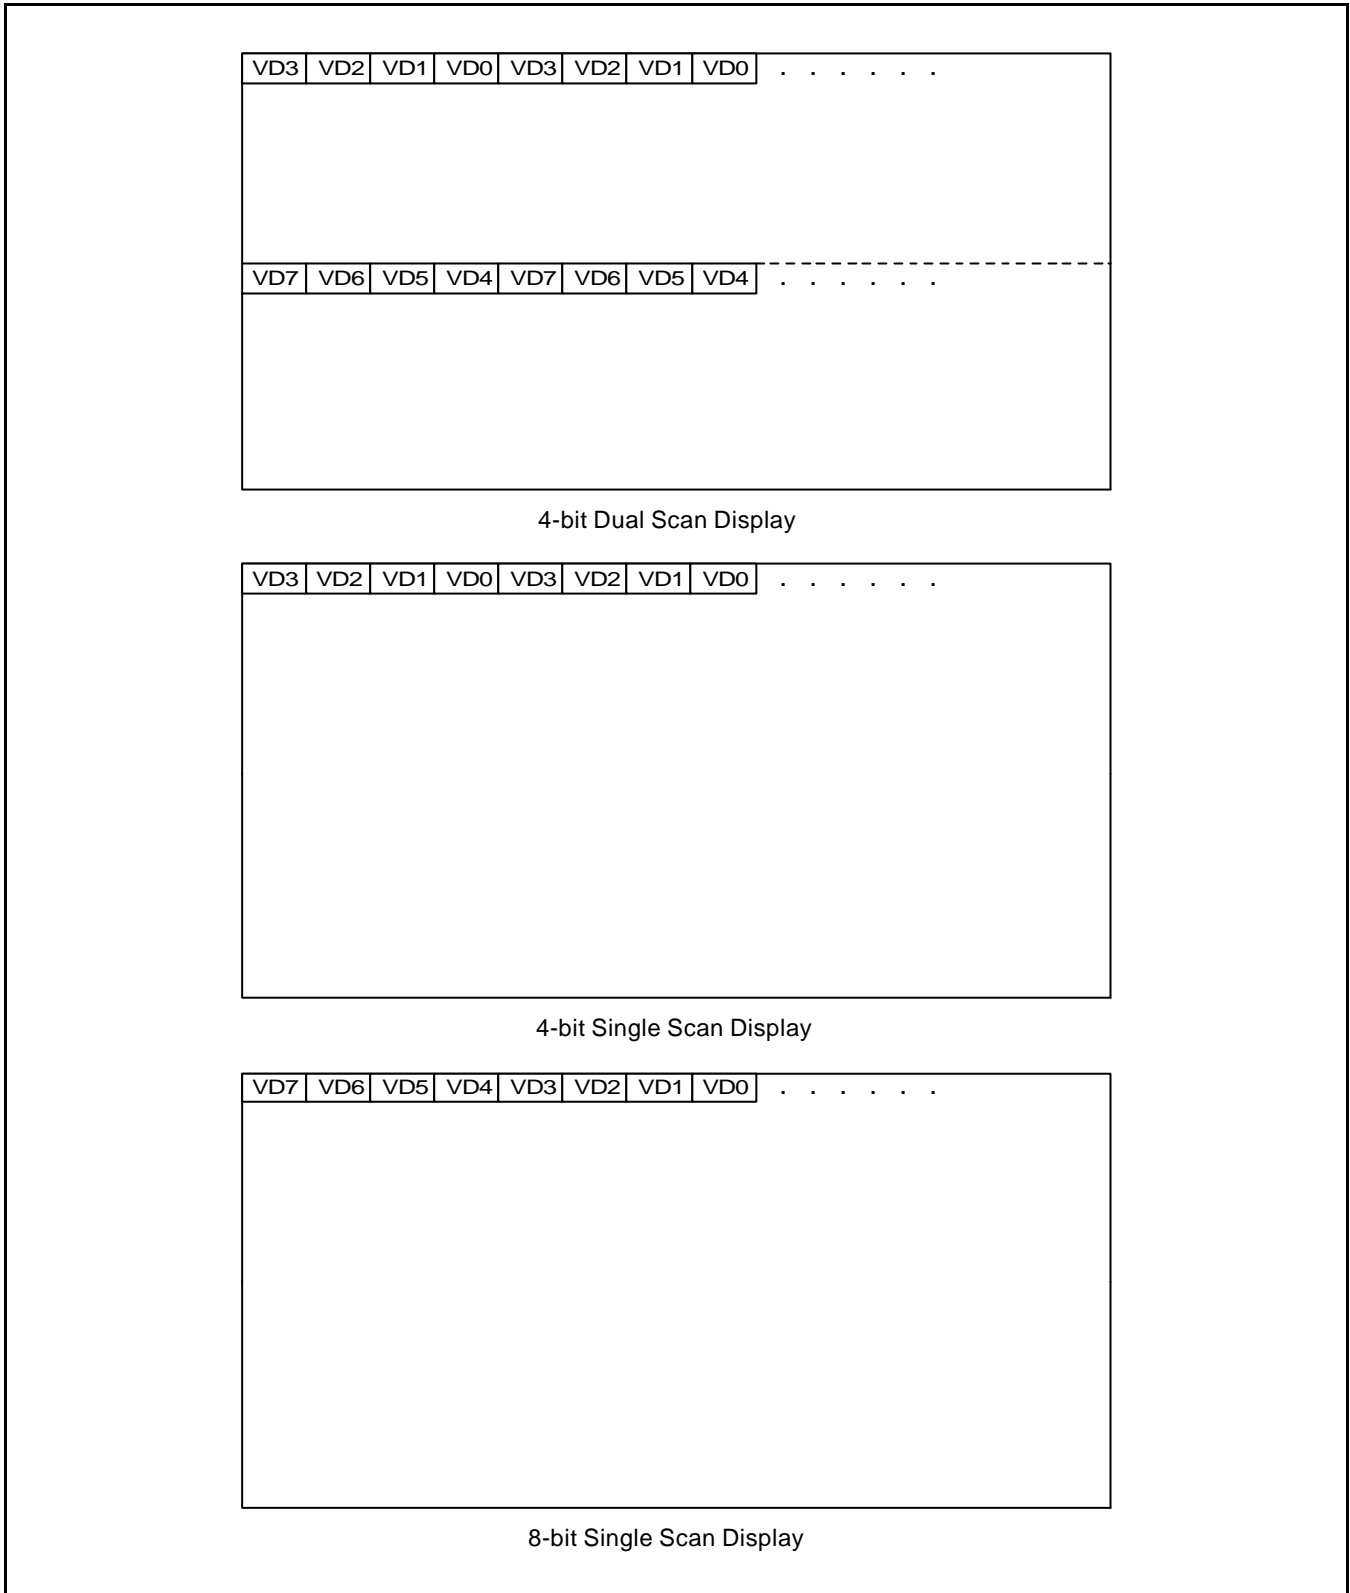
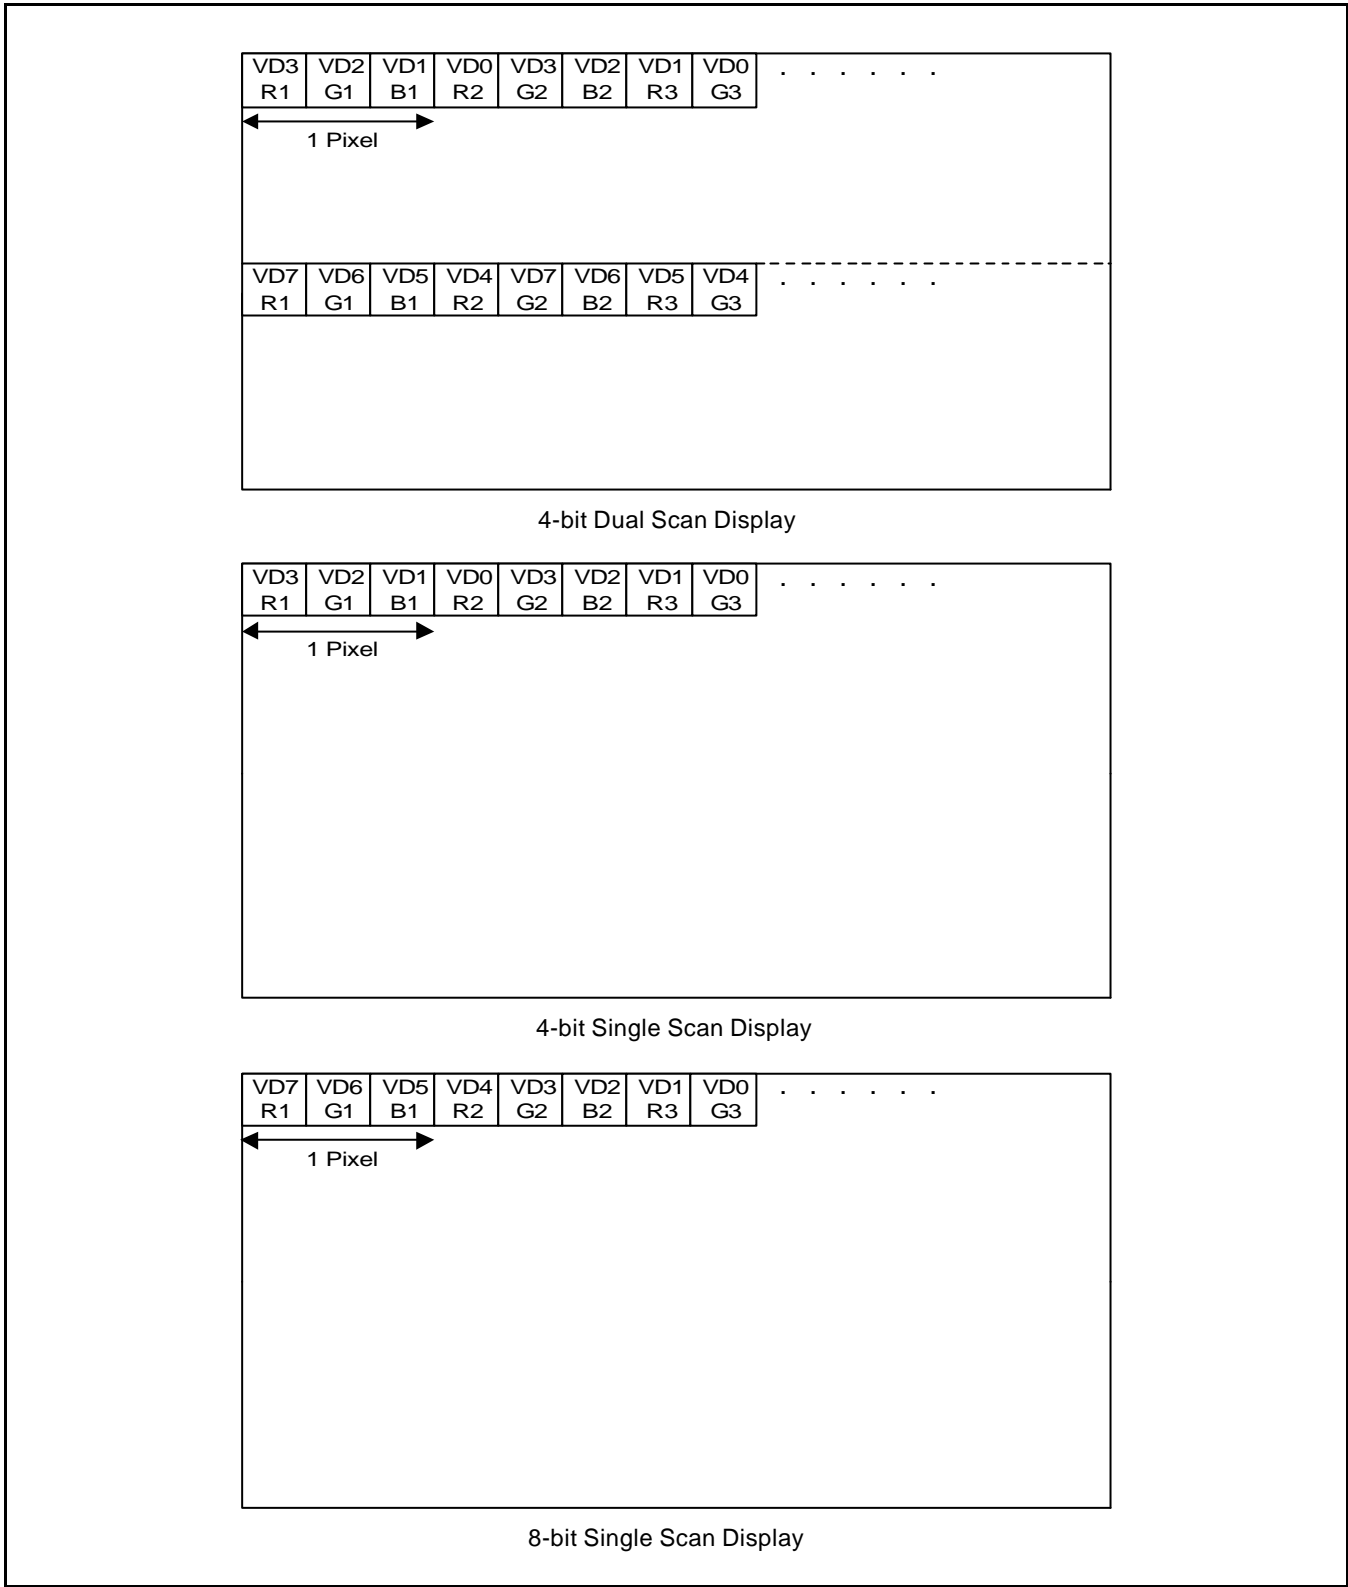

Figure 12-4. Monochrome Display Types
Figure 12-5. Color Display Types
- VD[3:0]:** These are LCD pixel data output ports. For a 4-bit or 8-bit single scan display, these 4-bit data are used as the display data as shown in Fig. 12-4. In case of 4-bit dual scan display, these 4-bit plays into its role of the upper display data as shown in Fig. 12-4.
- VD[7:4]:** These are LCD pixel data output ports. For a 8-bit single scan display, these data are used as upper display data as shown in Fig. 12-4. For a 4-bit dual scan display, these data are used as lower display data as shown in Fig. 12-4.
The LCD controller supports 3 types of LCD drivers: 4-bit dual scan, 4-bit single scan, and 8-bit single scan display mode. Figure 12-4 shows these 3 different display types for monochrome displays, and figure 12-5 shows these 3 different display types for color displays.
A 4-bit dual scan display uses 8 parallel data lines to shift data to both the upper and lower halves of the display at the same time. The 4 bits of data in the 8 parallel data lines are shifted to the upper half and 4 bits of data is shifted to the lower half, as shown in figure 12-4. The end of frame is reached when each half of the display has been shifted and transferred. The 8 pins (VD[7:0]) for the LCD output from the LCD controller can be directly connected to the LCD driver.
Color displays require 3 bits (Red, Green, Blue) of image data per pixel, resulting in a horizontal shift register of length 3 times the number of pixels per horizontal line. This RGB is shifted to the LCD driver as consecutive bits via the parallel data lines. Figure 12-5 shows the RGB and order of the pixels in the parallel data lines for the 3 types of color displays.